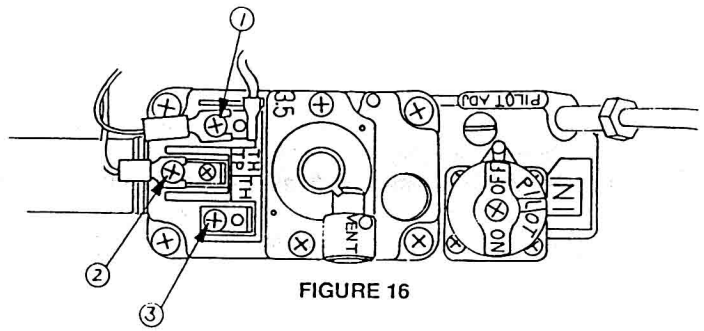

FIGURE 16
3. Install the remote wall switch in a convenient location and route a grounded 18 gauge, millivolt wire through the electrical hole, located at the bottom left side of the appliance. (A maximum wire length of 20 feet can be used in this application.) Attach the two leads to terminals 1 and 3 located on the gas valve (Fig. 16):
### 9.1 PILOT BURNER ADJUSTMENT (Figure 16)